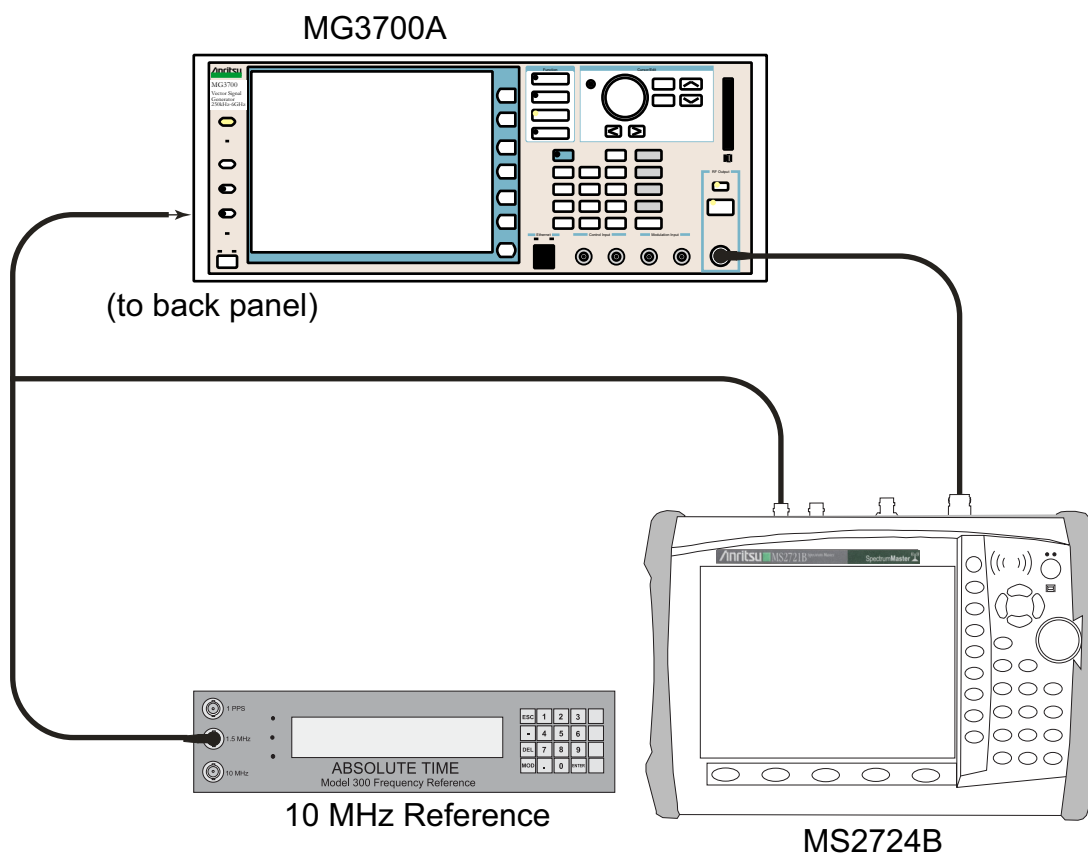

Figure 2-27. Mobile WiMAX Residual EVM – Test Setup
1. Connect the 10 MHz Reference to the 10 MHz/5 MHz Ref Input of the MG3700A and the Ext Ref In of the MS272xB as shown in Figure 2-27.